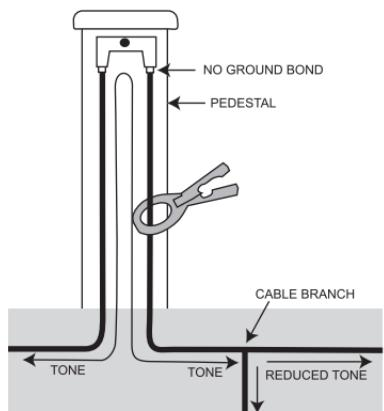

Fig. 12. Reduced Tone at Cable Branch
- Reduced Tone At Branch:** When tone is applied to a cable which has a branch, the tone will be split and be effectively decreased relative to each conductor's length and size. (See Fig. 12)